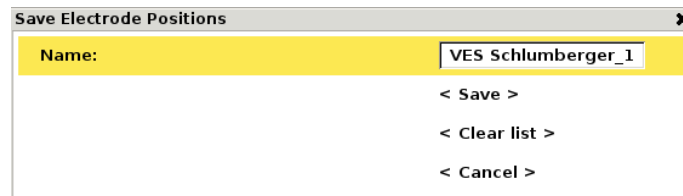

Figure 56 VES Electrode Positions save dialog
- Press <OPT> to bring up the *Save* dialog (Figure 56)